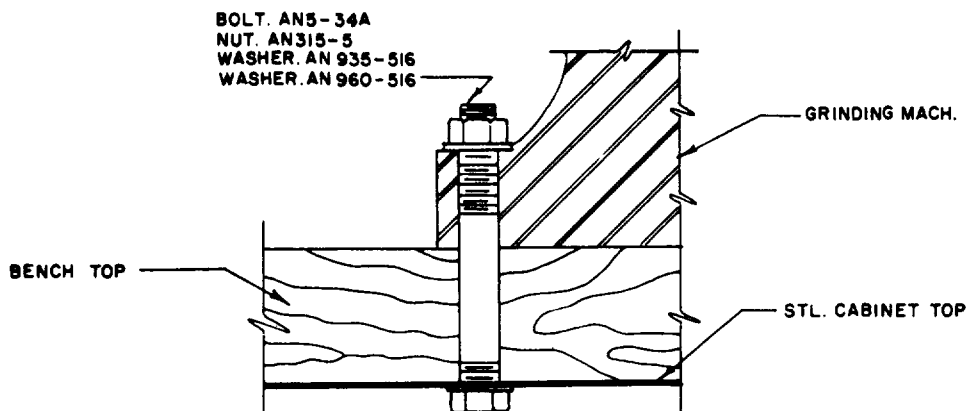

Figure 30. Typical bench mounting, utility grinding machine.
c. *Bench Mounted Equipment.* The utility grinding machine, drill press, machinist's vise, and hydraulic press are bench mounted (fig. 21). Mounting details are shown in figures 30 through 33.